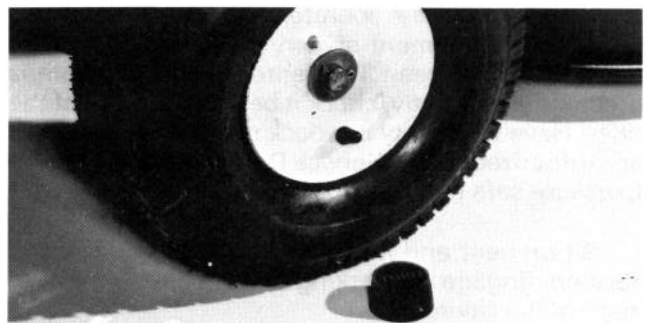

Figure 33
4. Remove the cotter pin and flange washer (Fig. 33) and remove the wheel from the axle.